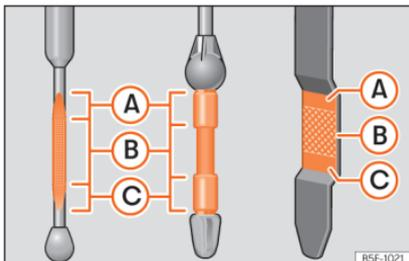

Fig. 224 Engine oil dipstick.
- Then pull it out once more and check the oil level »» **Fig. 224**. Top up with engine oil if necessary.
- When the oil level reaches at least zone »» **Fig. 224 B**, unscrew the engine oil filler cap carefully »» **ⓘ**.
If the oil level is above area »» Fig. 224 , do not start the engine. This could result in damage to the engine and catalytic converter. Contact a specialised workshop.
The oil level must never be above zone »» Fig. 224 . Otherwise oil can be drawn in through the crankcase breather and leak into the atmosphere via the exhaust system.